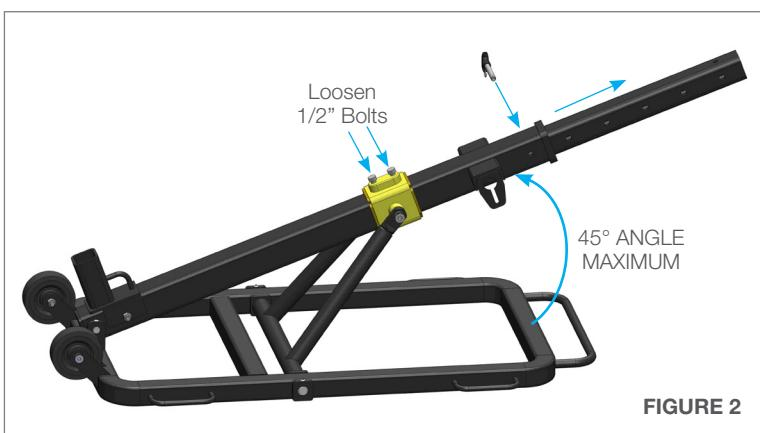

FIGURE 2
2. Loosen the two 1/2" Bolts and raise the Boom arm into the position that best suits the application. Secure the two bolts, remove the Quick Release Pin from the Inner Boom arm and slide the Inner Boom arm out to the position that best suits the application. **(Figure 2)**